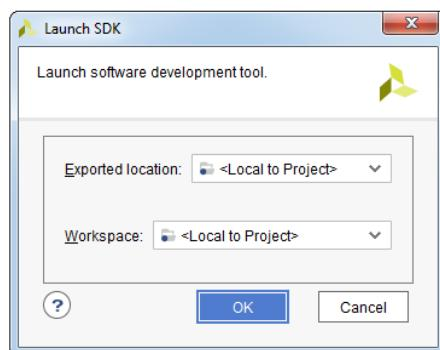

Figure 10.46: Launch SDK dialog box
16. In the **Launch SDK** dialog box, make sure that both **Exported location** and **Workspace** are set to **Local to Project** and click **OK**, see Figure 10.46.